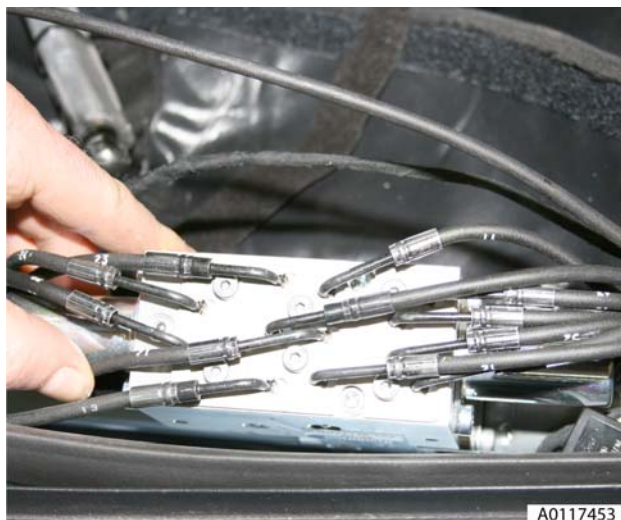

Figure 10
12. Loosen (x6) screws retaining plate (see Figure 10).